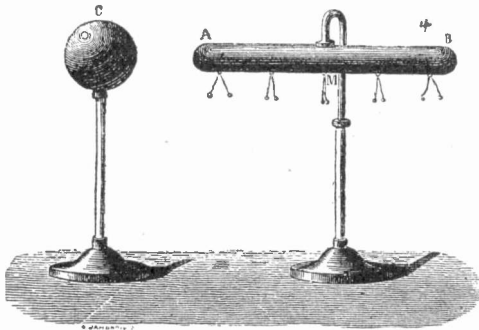

FIG. 102. ELECTRIFICATION BY INFLUENCE
Perhaps the simplest definition of electrostatic induction is the influence produced by an electric charge on a neighboring body through an intervening non-conductor. Suppose, for example, that the insulated metallic sphere (C), Fig. 102, is given a positive electric charge, and is then brought near an